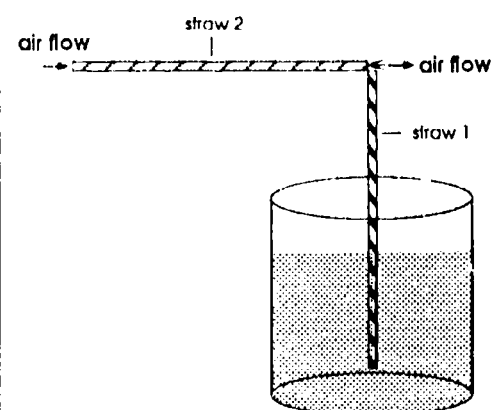

Figure 3. Force air through straw 2 and across the opening of straw 1.
3. Hold one end of straw 2 at a right angle to the top opening of straw 1. Using an air compressor, force air into the other end of straw 2 (see Figure 3). If done correctly this process will force air across the top opening of straw 1.